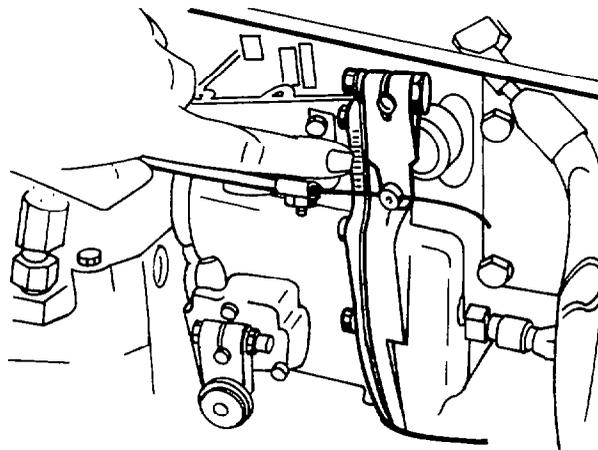

Fig. 125 — “K” Dimension Stamped on Governor Housing
- q. Re-stamp the “K” dimension on the governor housing if necessary. Fig. 125 shows the location of the “K” dimension.